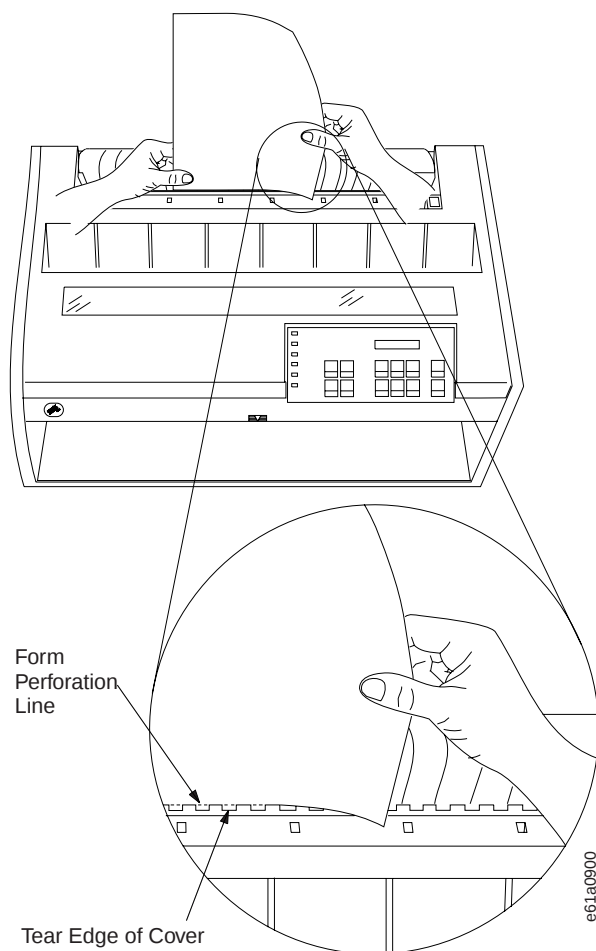

Figure 16. Tear-Off Position. Only the earlier models had a serrated tear edge, as shown.
7. Figure 16 on page 182 shows the correct position of the perforation for a clean tear-off.
16. Figure 16 on page 182 shows the correct position of the perforation for a clean tear-off.